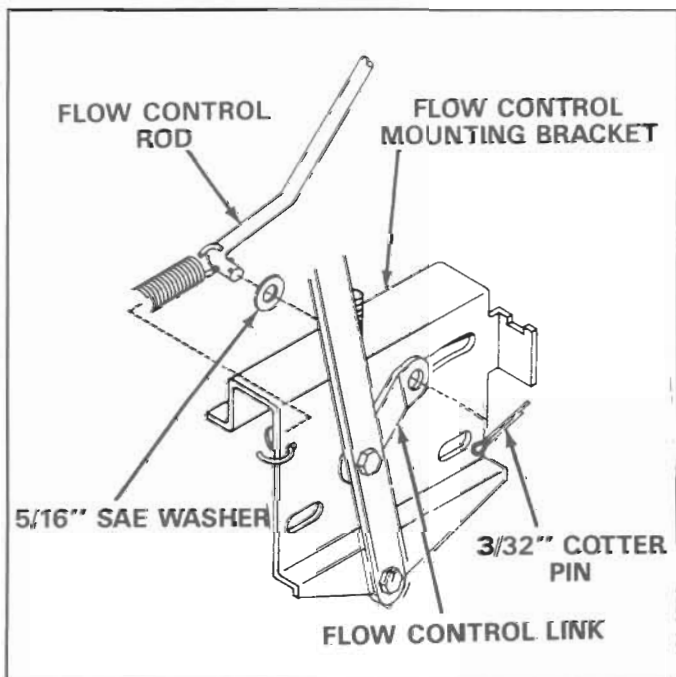

FIGURE 11
19. Place 5/16" SAE washer on end of flow control link, align with slot in flow control mounting bracket and insert end of flow control rod through slot and hole in flow control link. Secure with 3/32" cotter pin. See figure 11.